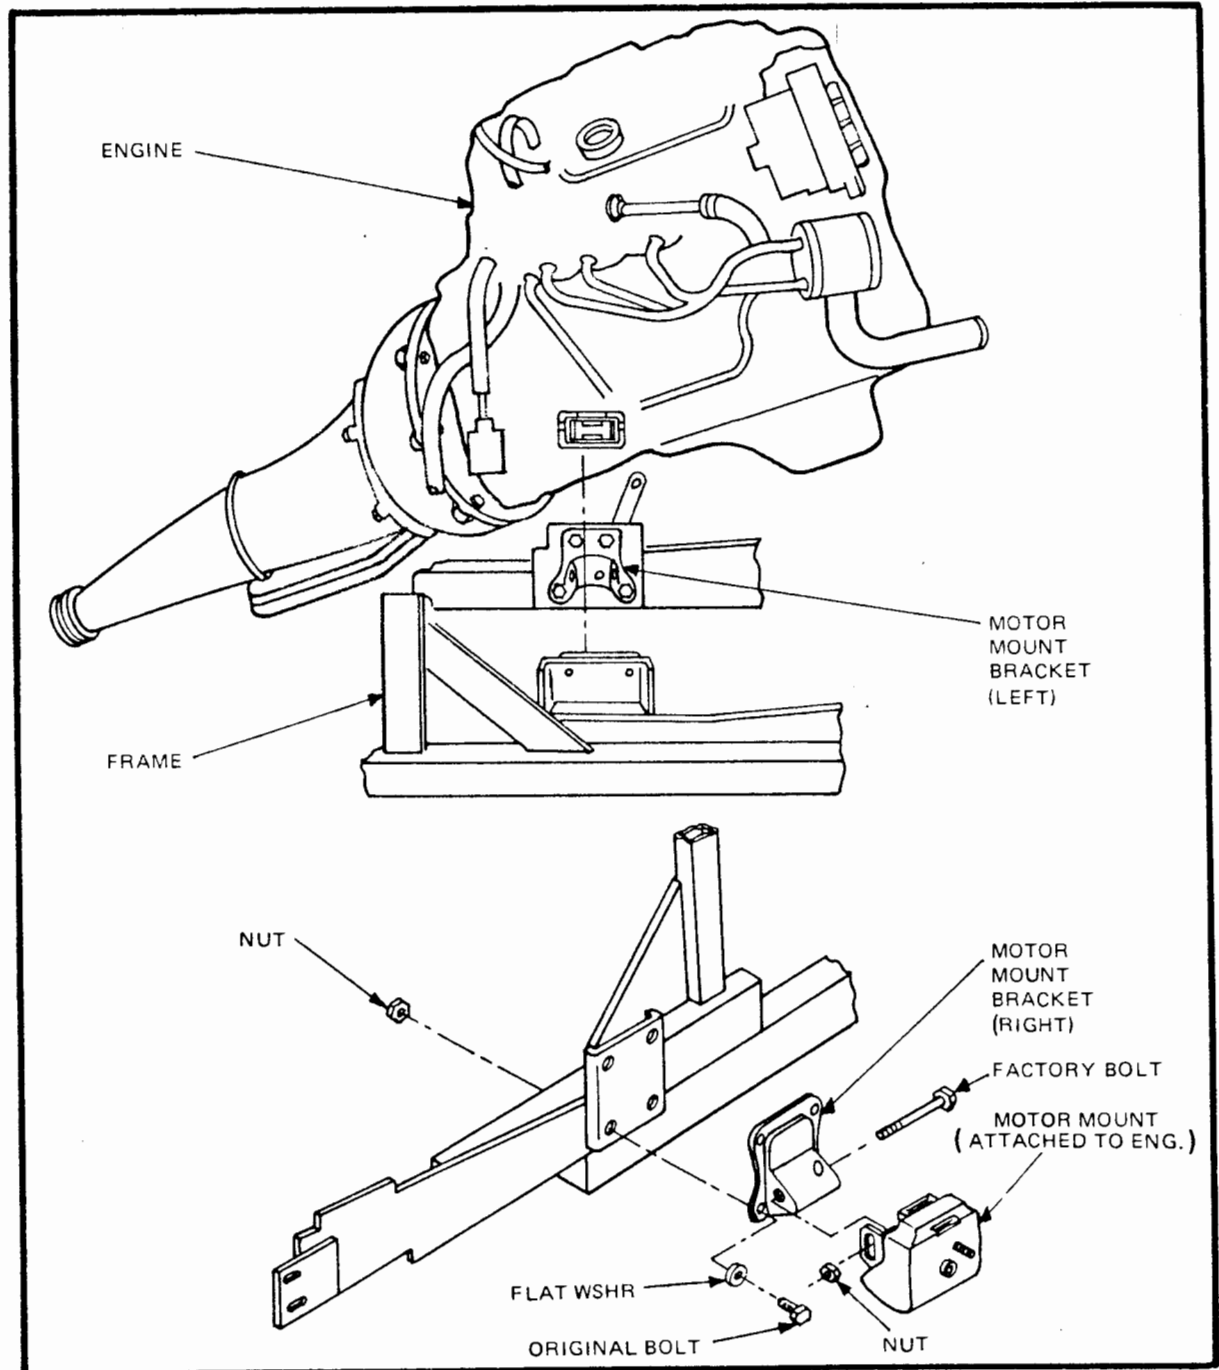

Figure 15
- Attach motor mount brackets to the plates on the side of the frame. The larger of the two brackets goes on the left. Use original Ford nuts and bolts with washers under the bolt heads of the lower bolts to give clearance. (Figure 15)